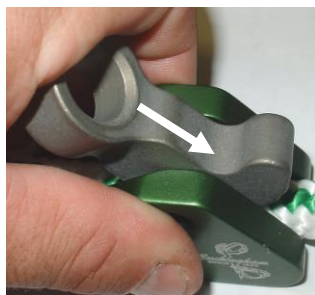
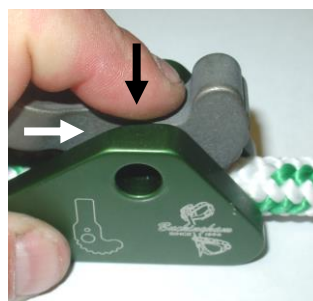

Fig. 6
Fig. 7
4. Align the holes of the cam lever and the body of the LAD by pushing the cam lever in the directions shown (Fig.6 & 7). The cam lever must be mounted in the same direction as shown in the sketch on the side of the LAD (Fig.7).